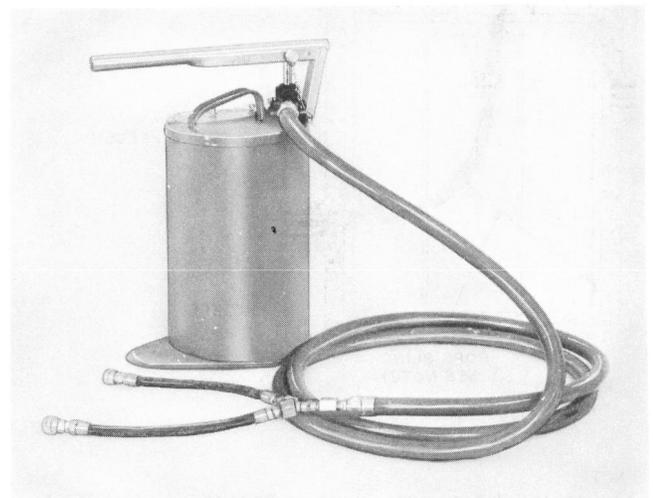

Fig. 5—Pump and Hose Assembly for C CONECS Cable Feeder
2.08 An optional pump and hose assembly is available for use with the C CONECS cable feeder. It consists of a pump assembly mounted on a container designed to accommodate 40 pounds of cable lubricant. The lubrication pump assembly weighs approximately 25 pounds (Fig. 5).